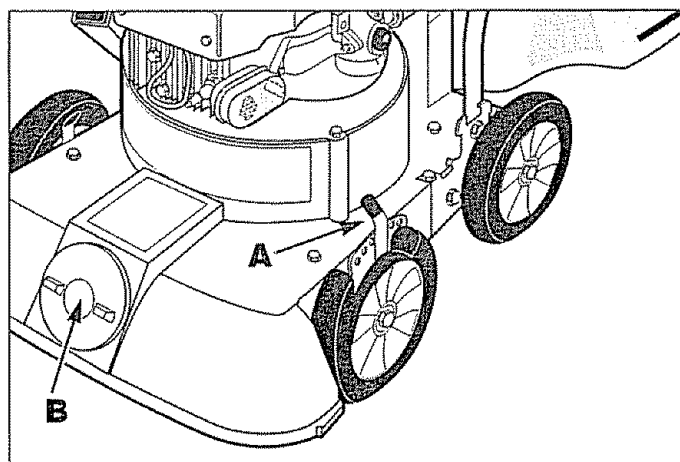

Figure 5: Vacuum Height Adjustment Lever and Inlet Cap.
The vacuum inlet height can be adjusted to six different settings in approximately 1/2" increments. These settings allow inlet suction to be adjusted for varying needs. For example, when vacuuming deep layers of leaves, adjust the vacuum inlet height at the front of the machine to its highest setting as described below (see Figure 5):
2. Squeeze the adjuster lever (A in Figure 5) toward the wheel to disengage the adjuster pin from the hole in the height adjuster bracket.
1. Position the inlet cap (B, Figure 5) so that the bar on the cap is aligned with the arrow at the REMOVE position.